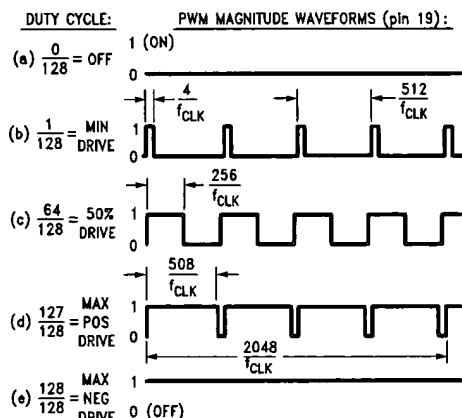

FIGURE 11. PWM Output Signal Format (Sign output (pin 18) not shown)
3. LM629 (sign/magnitude outputs): Outputs a PWM sign signal on Pin 18 (11 for surface mount), and a PWM magnitude signal on Pin 19 (13 for surface mount). Pins 20 to 25 are not used in the LM629. Figure 11 shows the PWM output signal format.
**Pin 26 (14), Clock (CLK) Input:** Receives system clock.
**Pin 27 (15), Reset ( $\overline{RST}$ ) Input:** Active-low, positive-edge triggered, resets the LM628 to the internal conditions shown below. Note that the reset pulse must be logic low for a minimum of 8 clock periods. Reset does the following:
The LM629 provides 8-bit, sign and magnitude PWM output signals for directly driving switch-mode motor-drive amplifiers. Figure 11 shows the format of the PWM magnitude output signal.